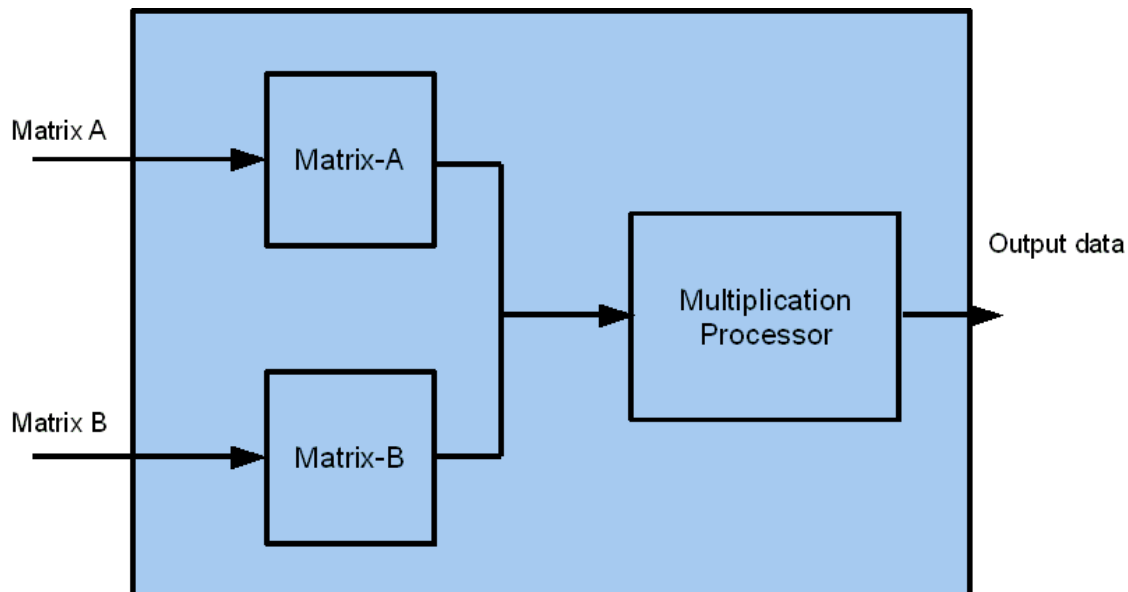

Figure 1: Matrix Multiplier Block Diagram
1. The Figure 1 shows block diagram of Matrix multiplier.